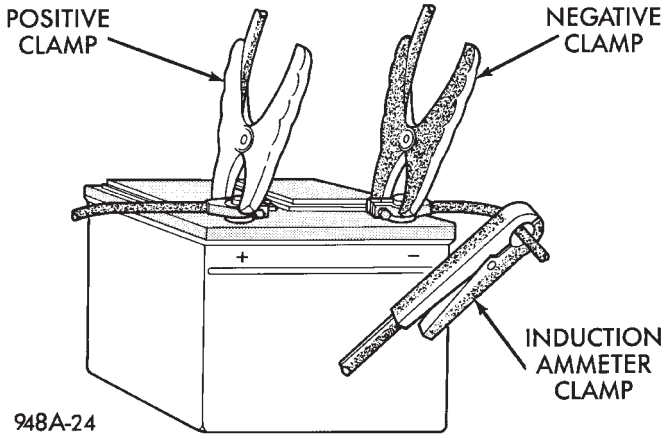

Fig. 2 Volt-Amps Tester Connections (Typical)
(1) Battery must be fully-charged and load tested before proceeding. See Battery, in this group.
(2) Connect a suitable volt-ampere tester to the battery terminals (Fig. 2). Refer to the operating instructions provided with the tester being used.